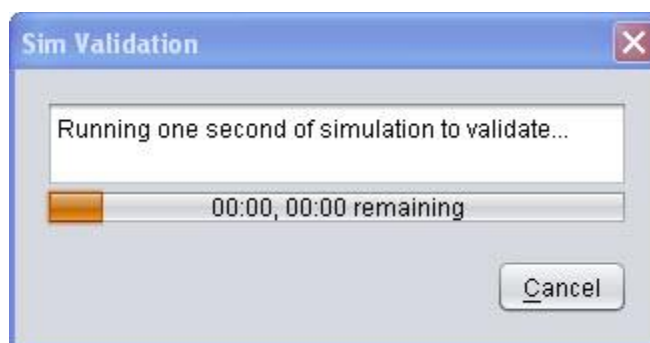

Figure 4-14 Sim Validation window
1. Select **Validate Only** from the Tools dropdown menu. Upon doing so, the Sim Validation window will be displayed as shown in Figure 4-14, indicating the time remaining to validate data.